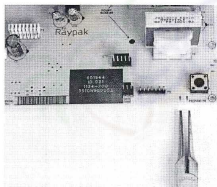
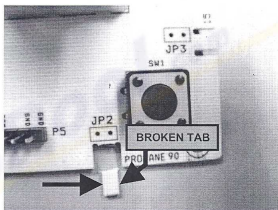

Fig. 8
Fig. 9
2. Break off tab with pliers as shown in Fig. 8 & Fig. 9.